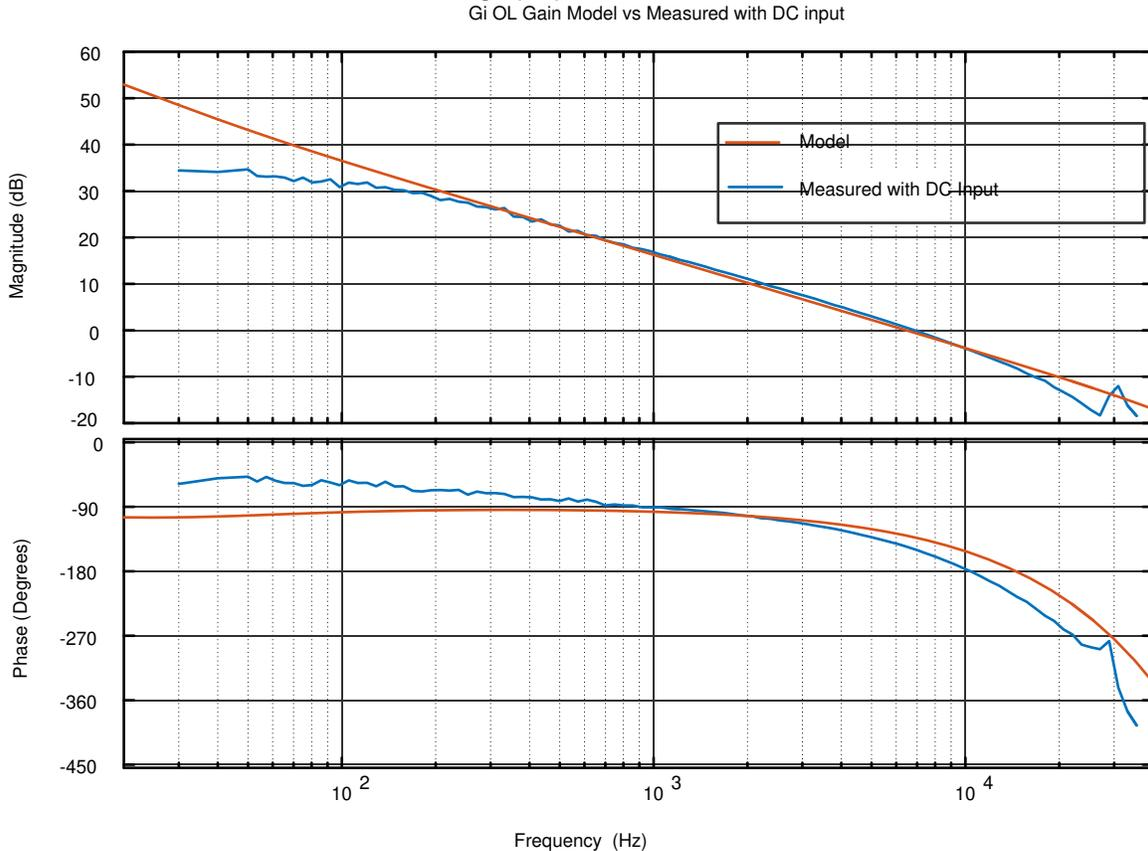

Figure 3-18. SFRA Run vs Modeled Closed Current Loop, Open Loop Gain
9. The SFRA GUI connects to the device. A SFRA sweep can now be started by clicking *Start Sweep*. The complete SFRA sweep takes a few minutes to finish. Activity can be monitored by seeing the progress bar on the SFRA GUI and also checking the flashing of blue LED on the back on the control card that indicates UART activity. Once complete, a graph with the open loop plot appears. Comparing this with the measured plots, there is good correlation between the modeled and measured as shown in Figure 3-18. This verifies that the designed compensator is indeed stable and the model accurate. Note: the deviation at low frequency, less than 200 Hz, is expected and is a known phenomena, also the measurement shown here was taken with a DC source, if an AC source is used to emulate a DC source the output impedance of the AC source can result in deviations from the graph plotted below